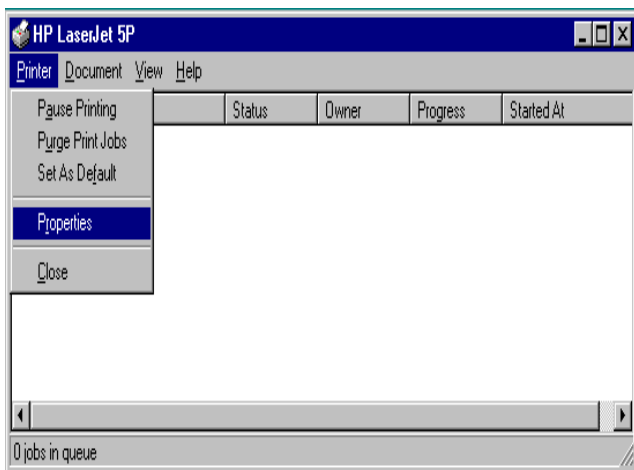

Figure 4-7
14. Select **Printer** as shown in Figure 4-7.
15. Select **Properties** as shown in Figure 4-7.